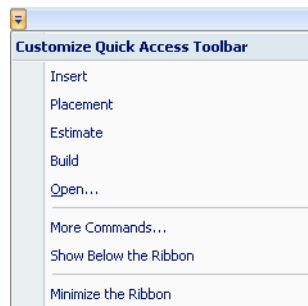

Figure 5-62: *Customize Quick Access Toolbar* menu
- From the *Customize Quick Access Toolbar* menu (see figure 5-62 on page 46), select **More Commands**.